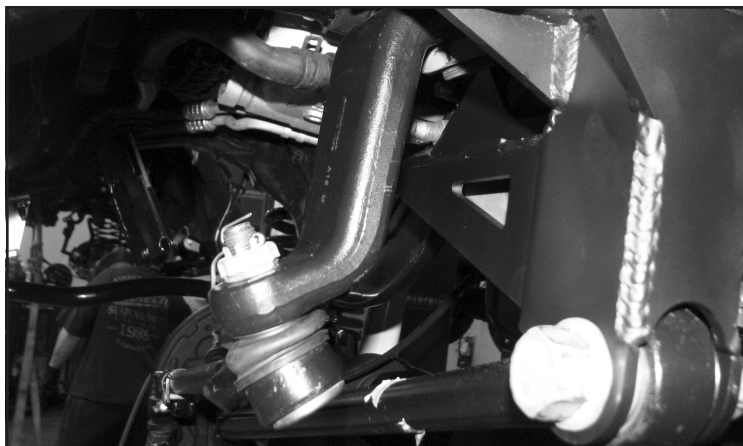

FIGURE 17 - STEP 22
22. Reinstall the track bar to the new frame bracket. Torque to 300 ft-lbs. Install the drag link to the new Fabtech pitman arm using the factory hardware and the new supplied cotter pin. **NOTE: The drag link will need to be rotated 180 degrees and installed from the bottom side of the pitman arm.** **SEE FIGURE 17**